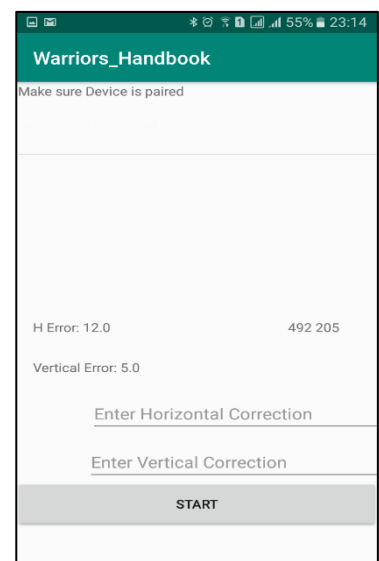

Figure 2.8 Android App Manual Correction
- Apart from image processing, the firer can directly or manually input the correction values of the weapon to the application manually (Figure 2.8). It will send those values to the machine which will in return zero the weapon.